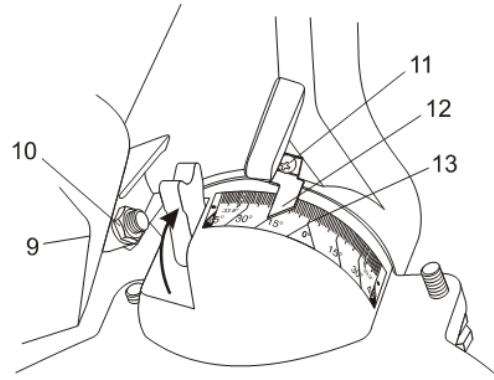

Fig. 13
8. Insert a 4 mm hex key (provided) in the 0° bevel stop set screw (9) (Fig. 13). While holding the hex key, loosen the 0° bevel stop lock nut (10) using a 13 mm wrench (provided).